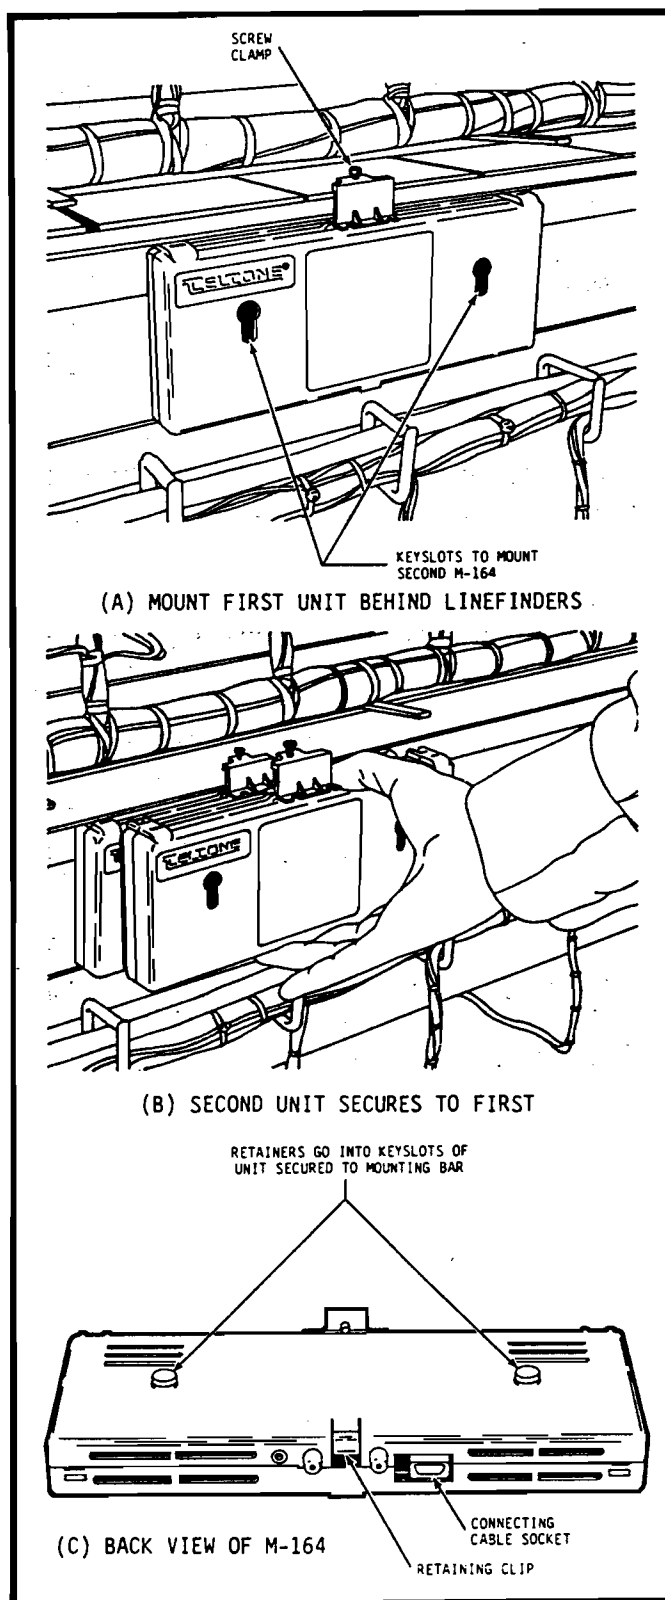
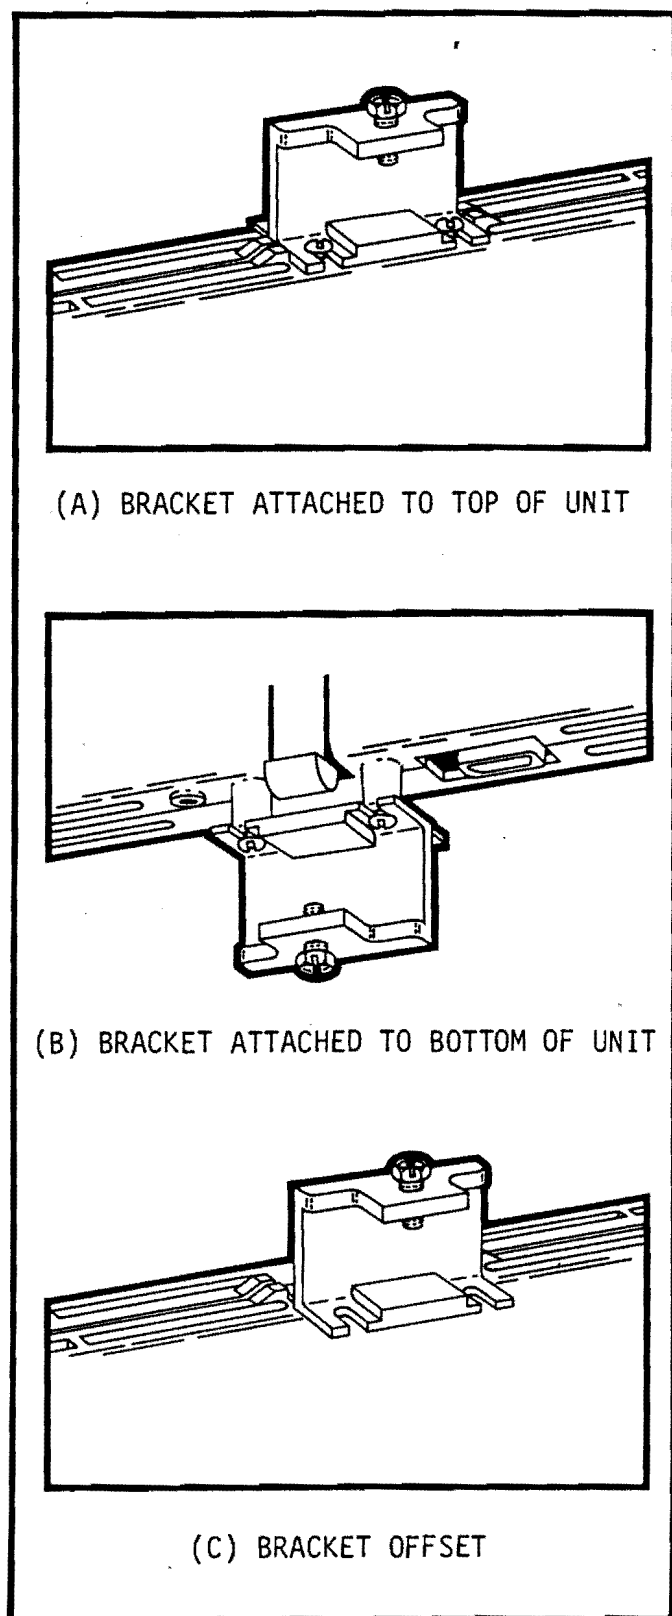
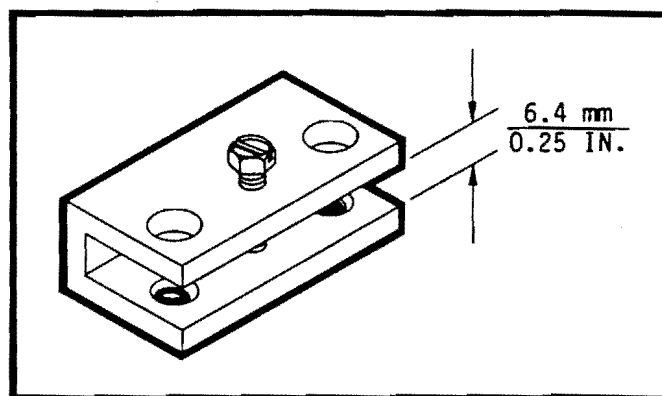

Figure 5 Linefinder Mounting
Figure 6 Repositioning the Standard Bracket
Figure 7 M-164-23 Mounting Bracket
(1) Ensure that the M-164 has not been damaged in shipping.
(2) Ensure that the ordering number stamped on the M-164 housing front label agrees with the invoice and packing list.
(3) Select a site for the M-164 on the linefinder frame, usually behind the switches and just above the cable trough (see Figure 5). If required, reposition the standard mounting bracket (see Figure 6) or install any accessory mounting hardware (see Figures 7, 8, and 9).
- If the unit is to be mounted directly on the linefinder frame, tighten the screw clamp with a screwdriver or a relay wrench (W.E. Co. 417A or the equivalent). See Figure 5(A).
- If the unit is to be mounted piggyback on a previously mounted M-164 (see Figure 5(B)), insert the retainers of the second unit into the keyslots of the first unit and press downward until the two units are flush at the top and bottom. To separate units so mounted, pull backwards on the retaining clip (Figure 5(C)) of the second unit while pulling it up and out of the keyslots of the first unit.
- If the unit is to be mounted on a wall or rack, attach it using the M-164-26 (Figure 7) brackets and appropriate hardware (obtained locally).